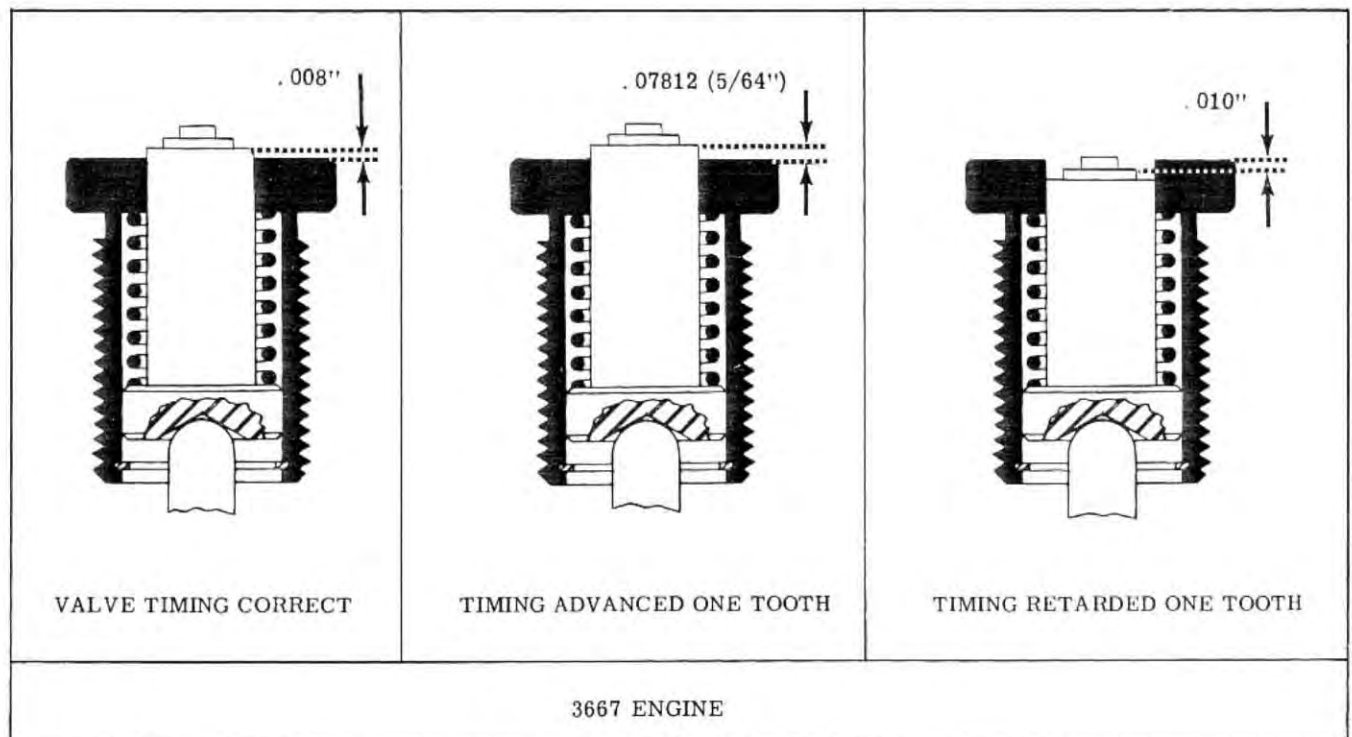

Fig. 3 Interpretation of Valve Timing
6. Crank engine ONE complete revolution so that No. 1 cylinder is again on top dead center (beginning of intake stroke). Refer to Fig. 3 for interpretation of the valve timing.